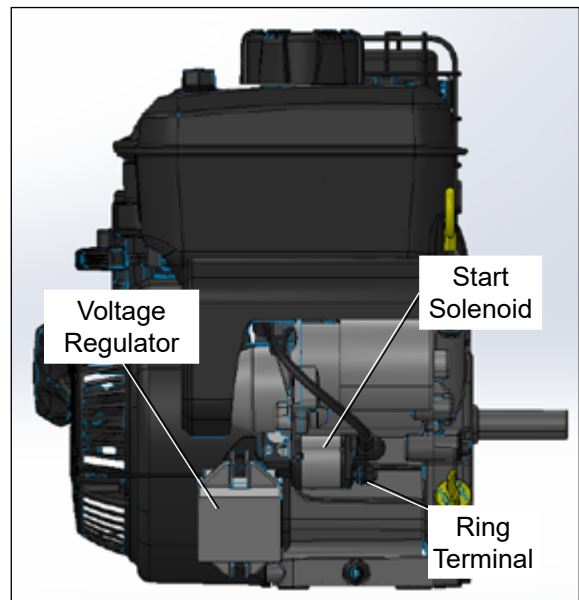

Figure 2 — Engine
4. Locate rear Vanguard engine voltage regulator and start solenoid (refer to Figure 2).
6. Disconnect the red wire ring terminal from the voltage regulator at the starter solenoid stud (refer to Figure 2). Wrap the ring terminal with electrical tape to prevent contacting the battery terminal on the solenoid. Tie up the loose ends to prevent rubbing.